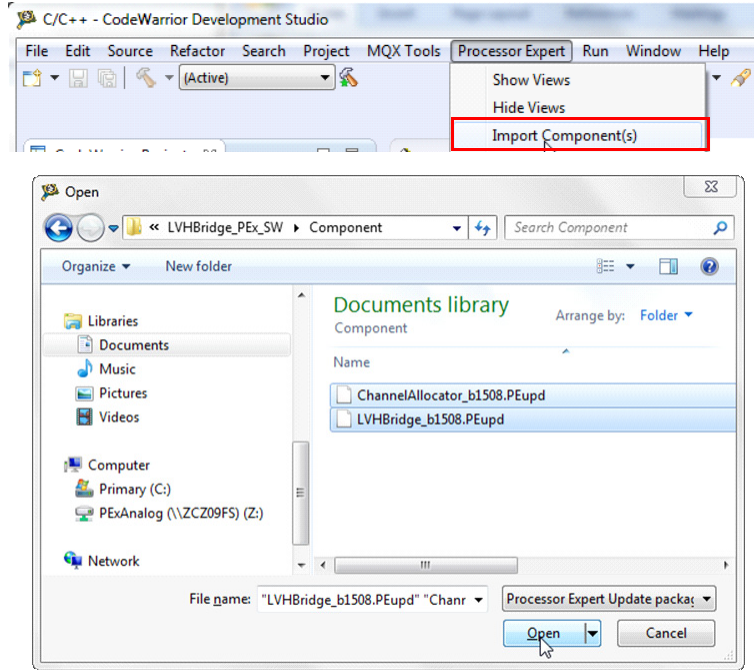

Figure 6. Import LVHBridge component
2. In the pop-up window, locate the component file (.PEupd) in the example project folder 'LVHBridge\_PEx\_SW\Component'. Select LVHBridge\_b1508.PEupd and ChannelAllocator\_b1508.PEupd files, and then click Open (see Figure 6).